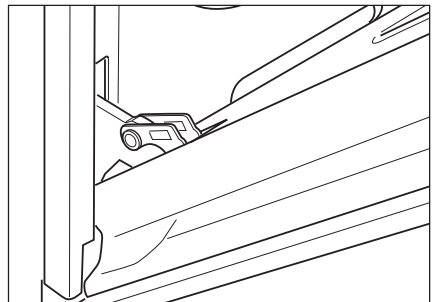

Fig.33d
- Gently close the door until left and right hinge levers "A" are hooked to part "B" of the door (fig. 33d)